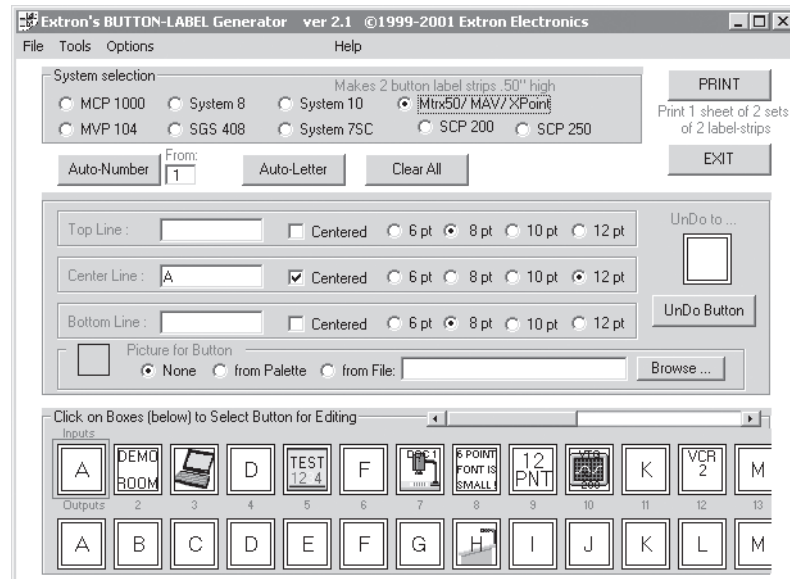

Figure 5-7 — Extron's Button-Label Generator window
1. To run the Button-Label Generator program, double-click the Button-Label Generator icon in the Extron Electronics group or folder, and click OK when prompted. The Extron's Button-Label Generator window appears (figure 5-7).